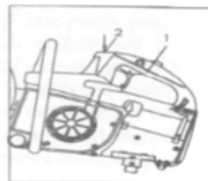

Fig. 8
4. Emergency stop (ref. Fig. 8) In normal conditions, when the motor is timed out, the angle grinder machine must be turned off. However, if a malfunction or an emergency occurs during the cutting process, you may turn off the motor immediately by pressing and holding the emergency stop button (2) at the front end of the rear handle (1).